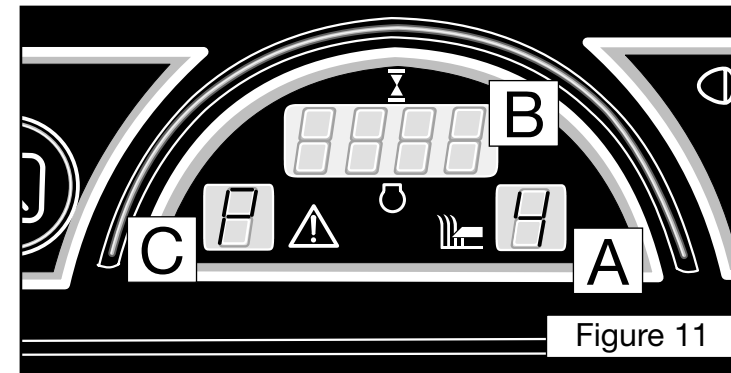

Figure 11
The “key start” controls both the ignition and the starter. The engine cannot be started without the park brake being on; the “P” light (Figure 11 - C) indicates the brake is engaged. Insert the key and turn to the first position, then turn further to activate the starter. Release when the engine starts. To stop the engine, turn the key to the left (having first switched off both the cutter and Power Take-off). To prevent unauthorised use, always remove the key after use. THE IGNITION MUST ALWAYS BE TURNED OFF BEFORE THE TRACTOR CAN BE RE-STARTED.
Remove your foot from pedals 'A' and 'B' (as you would stop normally) and then simply pull the parking brake lever 'C' to the upright position - a "P" will be indicated on the dashboard display (Page 5 Figure 11 (C)). When you turn off the engine, the natural braking of the hydrostatic system will add to the effect of the brake. It's like leaving your car in gear.
The cutter switch controls the electromagnetic blade clutch. To switch the cutter on, push the switch and then release it, this will engage the cutter deck. To indicate that the Cutter Deck is engaged, the Cutter Deck Indicator will flash (Figure 11 - A). To stop the Cutter Deck, push the switch again. Although the Cutter Deck is automatically switched off when the engine is stopped or when the operator gets off the seat, it is not good practice to rely on these features, the Cutter Deck should always be switched OFF as soon as you have finished cutting and certainly BEFORE stopping the engine or getting off the tractor. The Cutter will only work whilst the operator is sat on the seat.
The cutting height is adjusted by turning the rotary switch anti-clockwise to lower the deck and clockwise to raise the deck. The height indicator on the electronic display (Figure 11 - A) shows the deck position (0-lowest to 9-highest). To get the best from this refinement use it to continuously adjust cutting height to suit ground and grass conditions. Do not make downward adjustments on the move until you are familiar with the height control, this will avoid "scalping" the lawn.